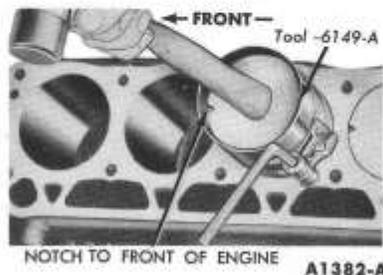

FIG. 60—Piston Installation
4. Make sure the ring gaps are properly spaced around the circumference of the piston. Install a piston ring compressor on the piston and push the piston in with a hammer handle until it is slightly below the top of the cylinder (Fig. 60). Be sure to guide the connecting rods to avoid damaging the crankshaft journals. **Install the piston with the notch in the piston head toward the front of the engine.**